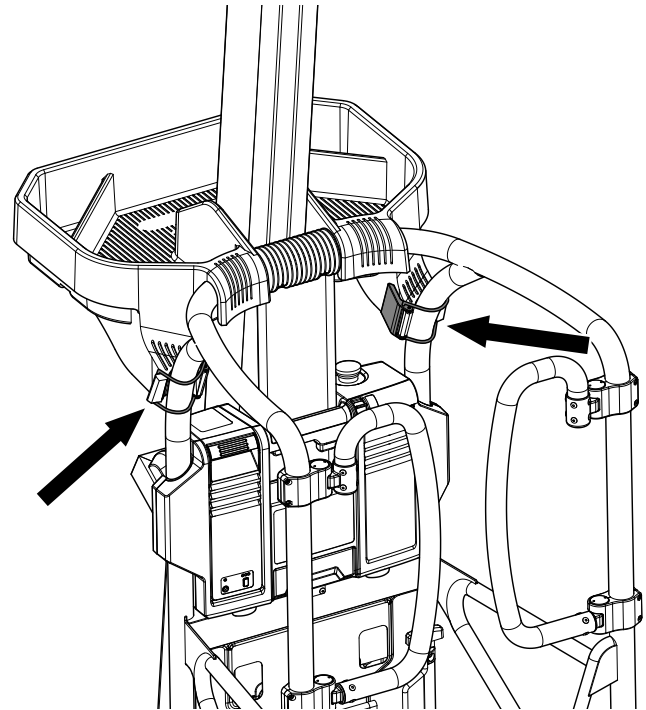

Figure 2-9. Tool tray installation
- Both of the clips are securely attached to the platform rail (Figure 2-9).
Place on top rail of platform, and fasten the two clips firmly around the rail (see Figure 2-9.).